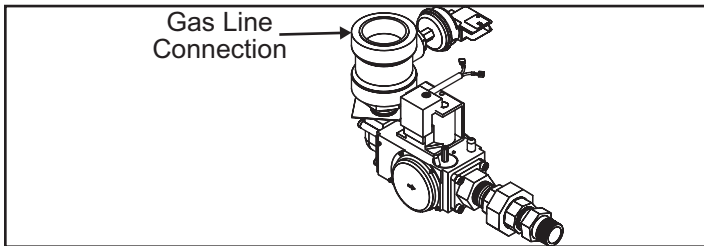

Figure 52. Supply Gas Line Connection
1. The water heaters covered by this manual are shipped from the factory with a 1 1/2" supply gas connection. See *Table 1* (page 10). Connect the supply gas line to the water heater's 24 VAC Gas Valve in accordance with all applicable local and national code requirements. See *Figure 52* (page 41).